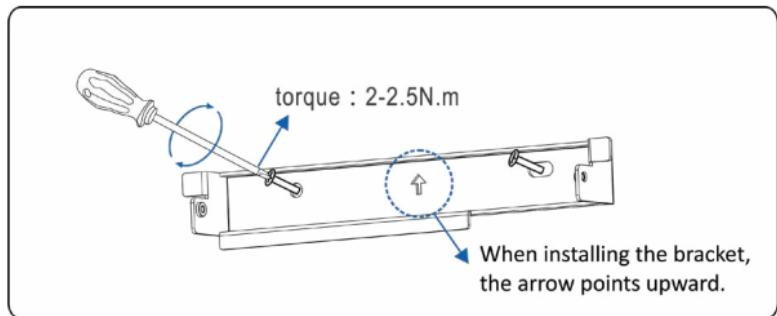

Figure 4.13 Installing the real panel
**Step 5** Align the rear panel with the holes, insert expansion bolts into the holes through the real panel, and tighten the expansion bolts to a torque wrench (torque 2-2.5 N·m), as shown in **Figure 4.13**.